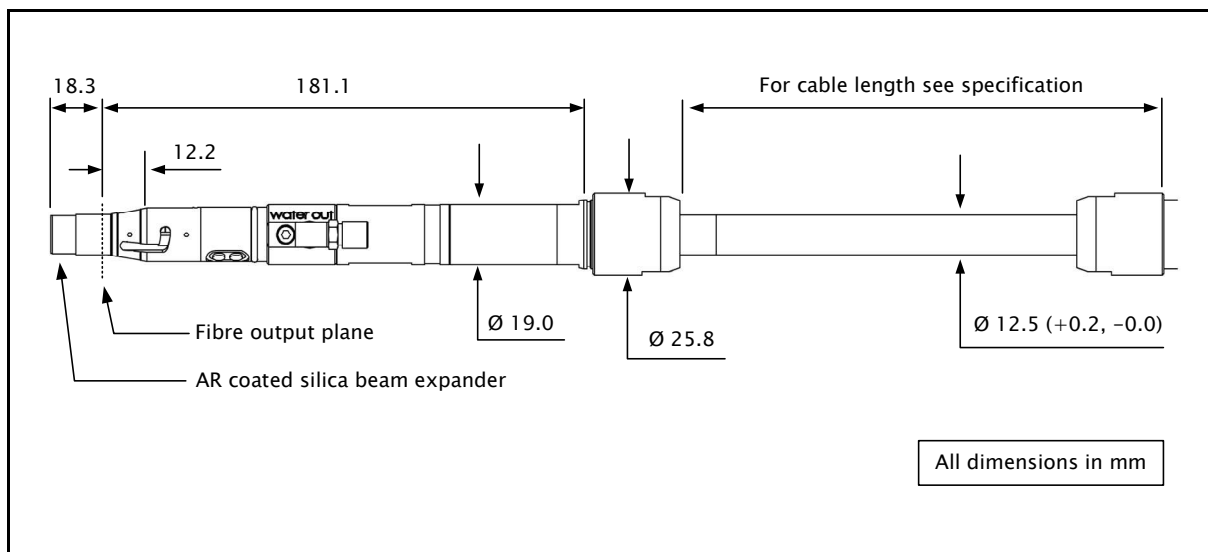

Figure 7.5: Outline Drawing: QBH Beam Delivery System
(1) Refer to table 4.1.1 for fibre type definitions
(2) The XY positioning accuracy of the fibre with respect to the mechanical housing
(3) Optical fibre end position is defined in Figure 7.5